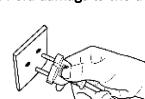

Fig. 4
1. Place the device on a flat and stable place. Check the power switch, make sure it is in the OFF "O" position. Then connect the cable to the power source. (Fig. 4)